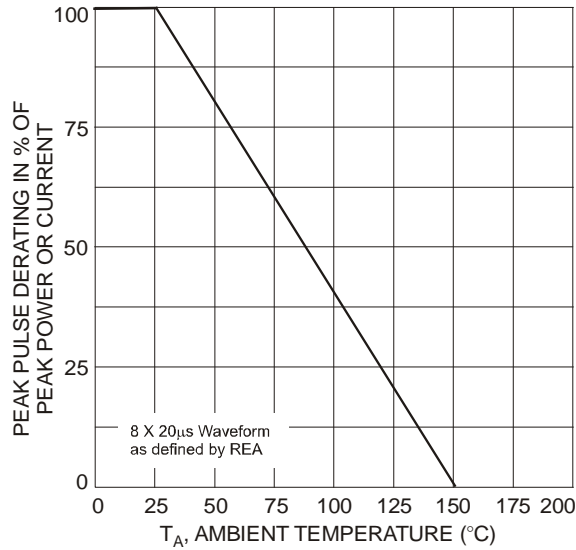
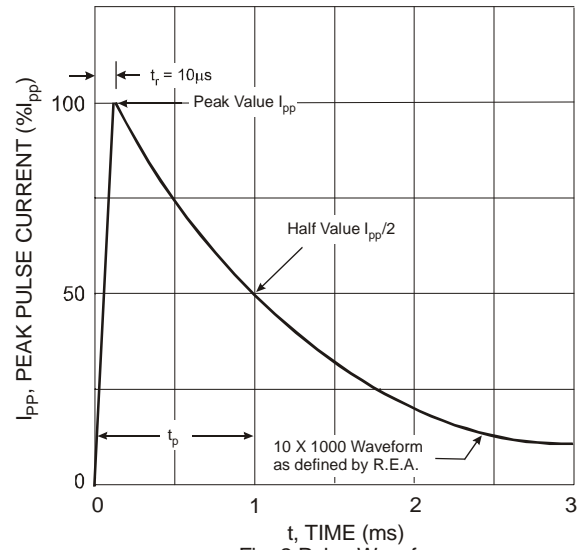
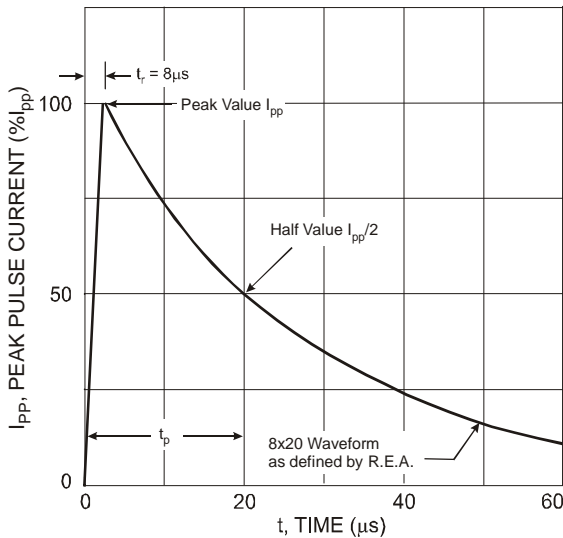

Fig. 1 Pulse Derating Curve
Fig. 2 Pulse Waveform
Fig. 3 Pulse Waveform
- Non-Repetitive current pulse as shown in figure 2 and derated above TA = +25°C as per figure 1.
- Non-Repetitive current pulse as shown in figure 3 and derated above TA = +25°C as per figure 1.